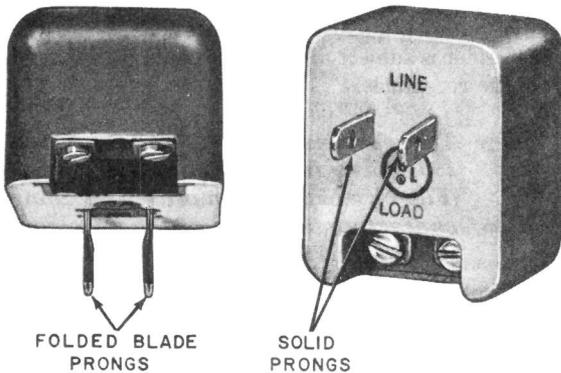

Fig. 6—2012-Type Transformer, Prongs
*Transformers manufactured after April 1969 have folded blade-type prongs (Fig. 6), which have improved retaining characteristics. Use of the 2A clamp with transformers having folded blade-type prongs will normally not be necessary. ♦Except the KS-20426L3 which has a clamp furnished.♦*